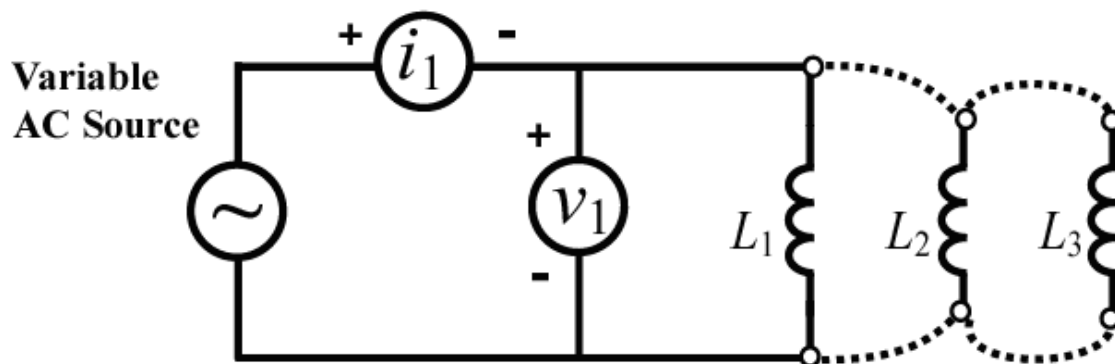

Fig. 2: Single-phase parallel inductors wiring diagram.
- 1) Using the **RL Load Box**, wire the circuit shown in Fig. 2 below. It is a good habit first to connect all current-carrying elements into a complete circuit, and only then connect the voltmeter. Initially, connect only one inductor. You will then use short **red wires** to connect the other inductors in parallel. Make sure that your current and voltage meters have the correct relative polarity, as shown in Fig. 2. Otherwise, some of your measurements may be 180 degrees out of phase.